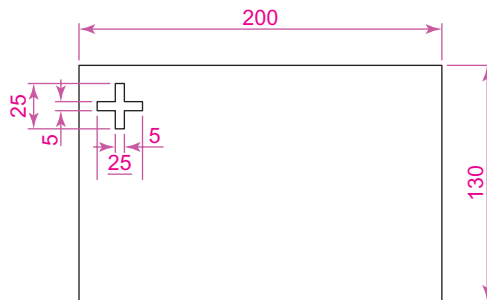

Fig. 5.3 First example – **Copy** Object – outlines
1. Construct Fig. 5.3 using **Polyline**. Do not include the dimensions.